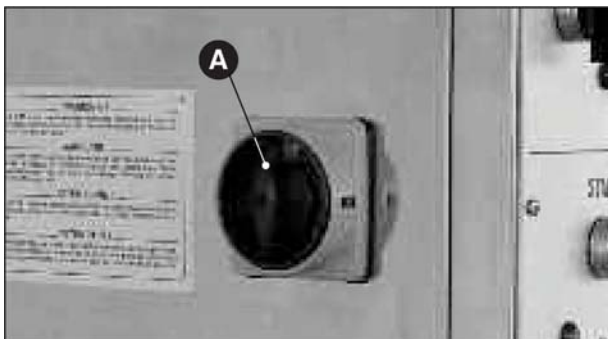

Fig. 1
- Position the main switch on “0” (Fig.1 A) and check the correct set-up of the Archimedean screw, making sure that the cylinder part is sustained by the dragging shaft.
- Turn off the machine pressing the general switch (Fig.1 A).